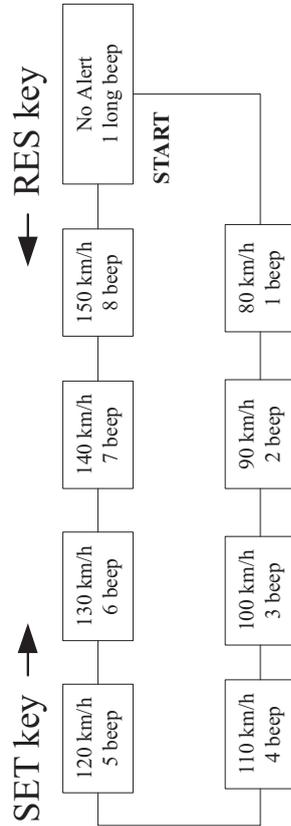

Fig 7.2
Step 1: Enter the manual speed alert setup mode: Press and hold the BRAKE pedal while pressing the **RES key 5 times** in quick succession. The Electronic Module will respond with one Low tone beep for each press of the RES key. Release the BRAKE pedal and the Electronic Module will respond with 5 Hi tone beeps confirming the speed alert setup mode. If you hear the incorrect number of Hi tone beeps, repeat the BRAKE pedal and RES key sequence.
Step 2: To set the ALERT in this mode, press the **SET** key to increase the speed or press the **RES** key to decrease the speed. The speed setting range is between 80 Km/Hr and 150 Km/Hr or No Alert. Refer to flow chart (Fig.7.2).